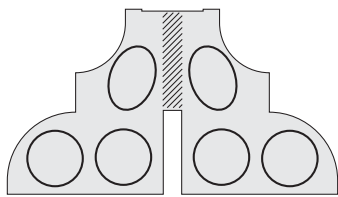

Fig. 1: Distance rings on pedestal wall 1
Step 2: Glue six distance rings on the front of pedestal wall 1 [A13, sheet 5] according to fig. 1. The hatched area has to remain open. Let dry well and press down several times while the glue sets. Now cover the upper edges of the distance rings with plenty of glue and lay pedestal wall 2 [A14, sheet 6] on it, so that the edges of both walls are exactly above one another. Tap the resulting pedestal half on your work surface with its lower edge so that both wall sides come to equal height. Check again whether none of the sides project beyond the other anywhere and lay the whole piece flat with wall 2 facing down, so that the liquid glue can run toward the new bonding area and not away from it. Use a book, or similar thing, to weigh it down.